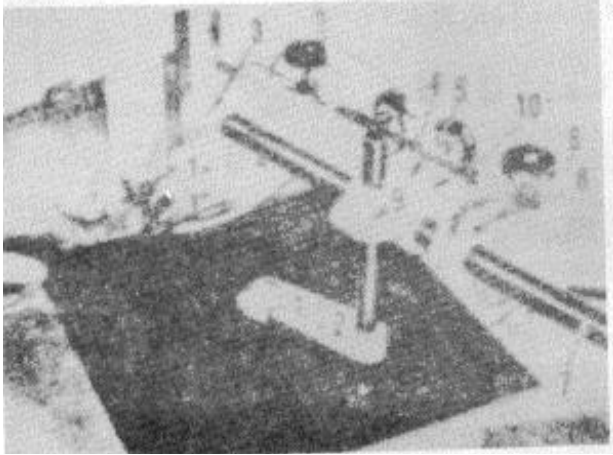

Fig. 35 - The Disk Cutting Accessory
The disk cutting accessory (fig. 35) permits the cutting of true circles, either internally or externally of any diameter from 2-1/2 in. to 30 in. This attachment is bolted to the post with the cap screws and washers furnished. Place the flat washers under the screws and bolt the bracket (No. 3, fig. 35) to the post.
Lower the post until the saw guides are approximately 3/8 in. above the table. Loosen the bolts (No. 8 and 10, fig. 35) and move the center pin (1) to approximately the distance of radius to be cut. Tighten the bolt (8).